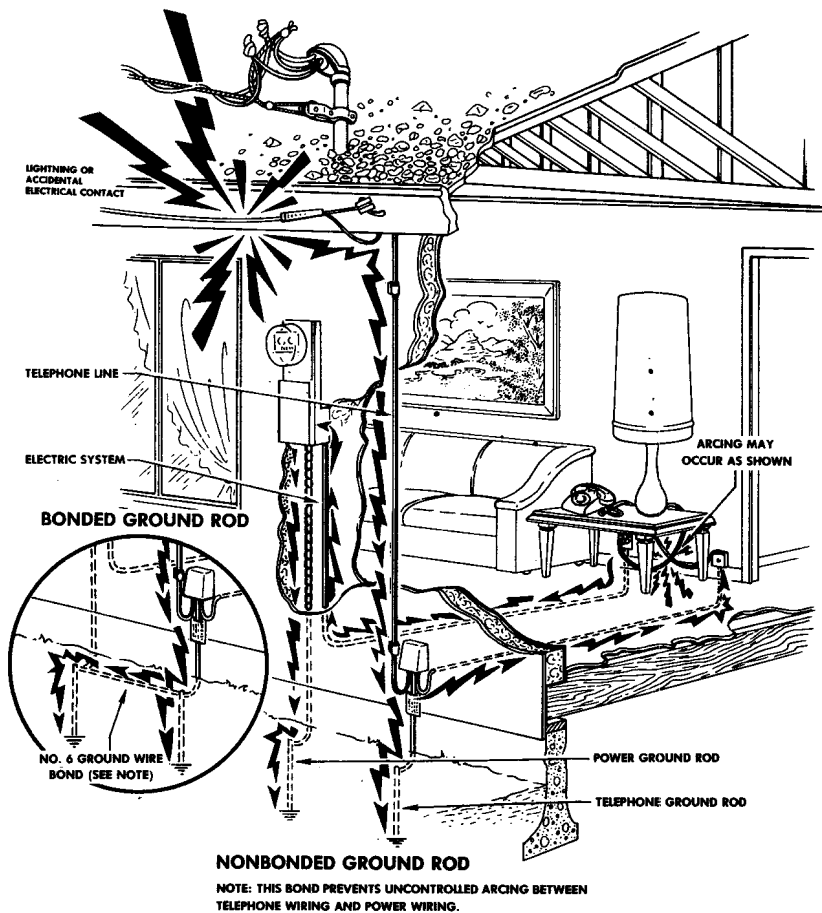

FIGURE 31. Effects of Bonding
6.01 The selection of protector grounds listed in Table B and shown in Figures 4 through 18 is intended primarily to provide the best available ground for the telephone protector. It is also intended to accomplish bonding between the power and telephone grounds where there is a choice of acceptable grounds. The necessity for bonding is shown in Figure 31.